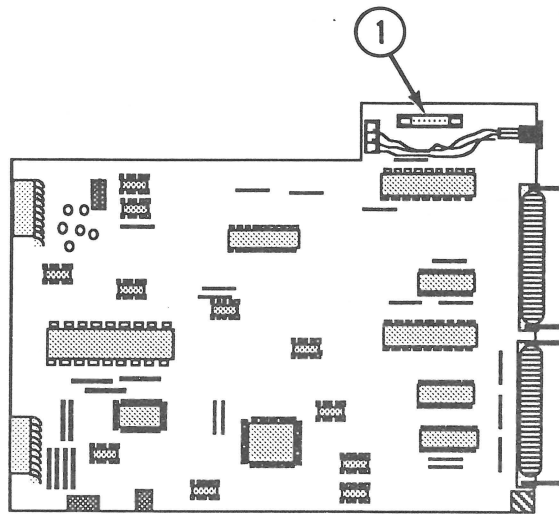

FIGURE 3
2. Locate fuse FU1 (Figure 3, #1). Remove the fuse with a fuse removal tool or carefully pry up one end of the fuse with a small screwdriver.